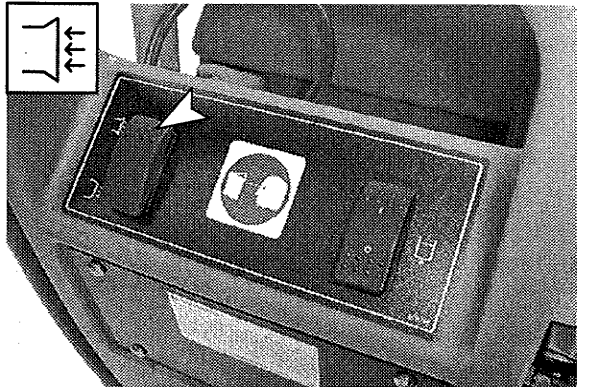

FIG. 25
6. Press vacuum/blower switch towards vacuum symbol (Figure 25).